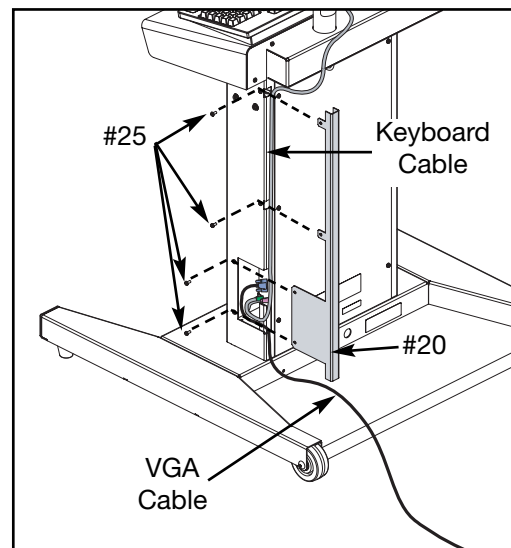

Figure 5
- B. Guide the keyboard and VGA cables into the channel in the cable access cover (#20). See Figure 5.